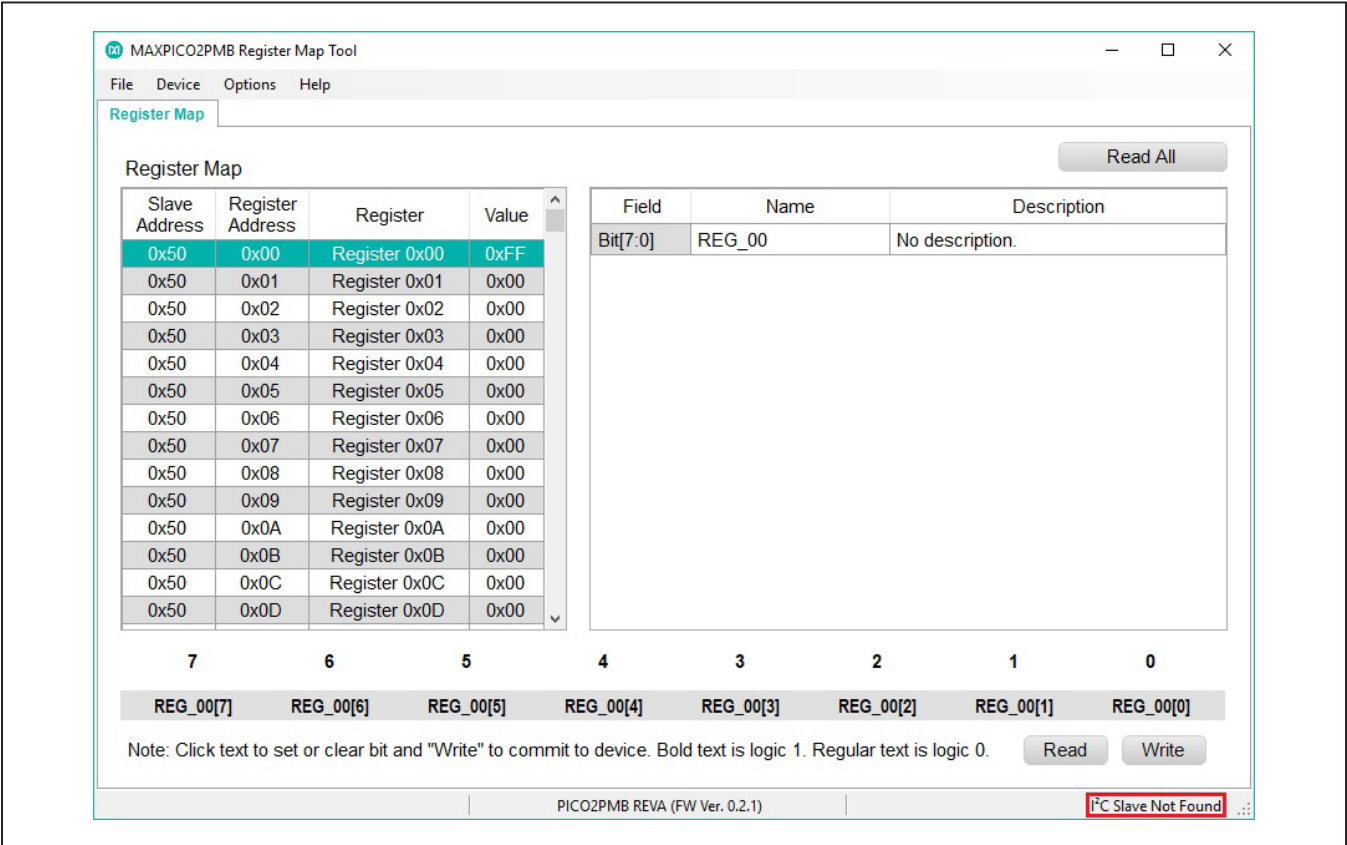

Figure 1. The Status of the GUI Shows I2C Slave Not Found Ready for Further Evaluations
- 7) If connection between the PC and the adapter board is successfully established, the status bar at the bottom displays **I2C Slave Not Found** (see Figure 1).